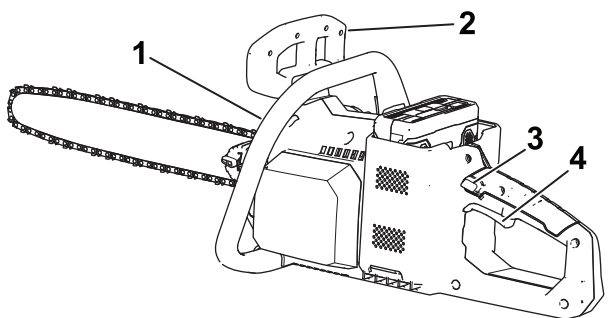

Figure 9
- With 1 hand on the front handle and the other on the rear handle, press the trigger lock, then squeeze the trigger (Figure 9).